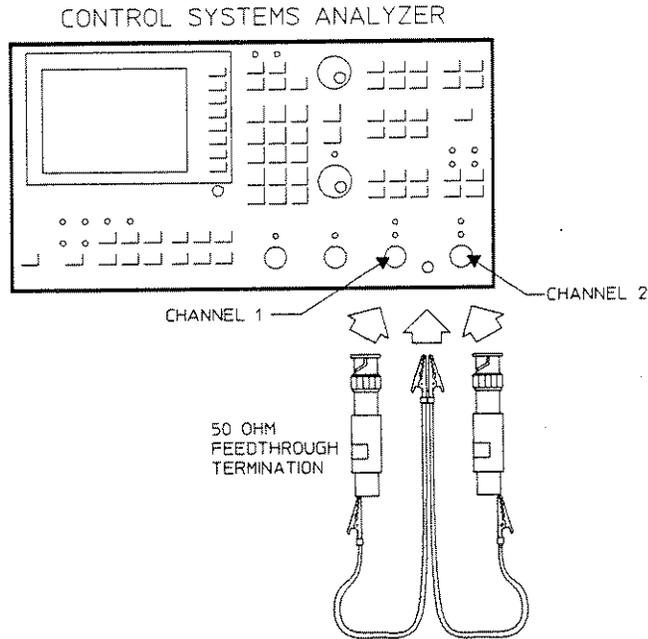

Figure 3-3. DC Offset Setup
1. Connect the HP 3563A as shown in Figure 3-3. Keep the leads to chassis ground as short as possible.